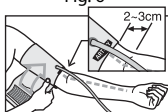

Fig. 7
3. Wrap the cuff around your upper arm so that the bottom of the cuff is approximately 2-3 cm above your elbow. The sign "ARTERY" should be over the arm artery as shown in the fig. 7.